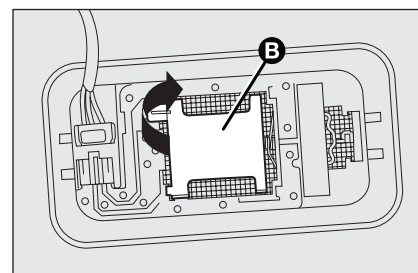

fig. 37
- ☐ open the lid **B-fig. 37** as indicated;